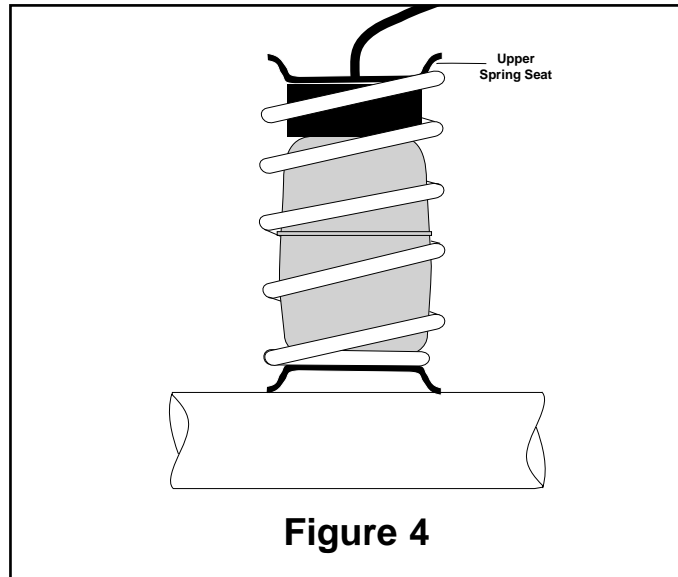

Figure 4
- F. Insert air line through spring seat and protector (Figure 4).
- C. Insert the air line through the spring seat and protector (Figure 4).